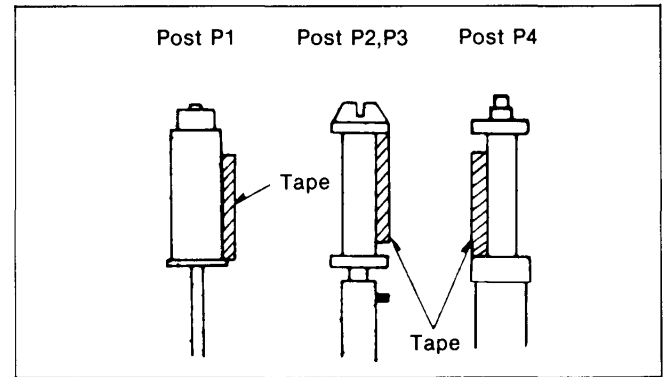

Figure M6
6. Play back the beginning portion of NV-E180 cassette tape, and confirm that tape travel as shown in Figure M6.